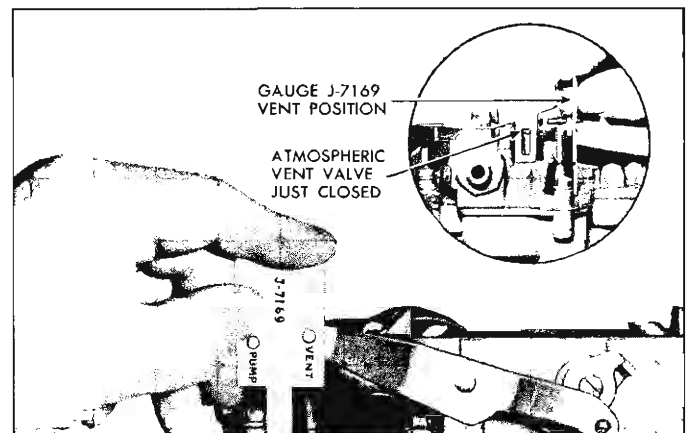

Fig. 21—Atmospheric Valve Adjustment
- **Atmospheric Valve Adjustment**—Remove pump rod to pump lever clip. To check and adjust Atmospheric Valve, place gauge J-7169 on bowl cover and insert pump plunger rod in hole marked "Vent" as shown in Figure 21. With gauge J-7169 in this position, Atmospheric Valve should be just closed as shown in insert (fig. 21). If necessary, bend arm with Tool J-4552 at tang on pump lever, then assemble pump rod to pump lever and secure with clip.